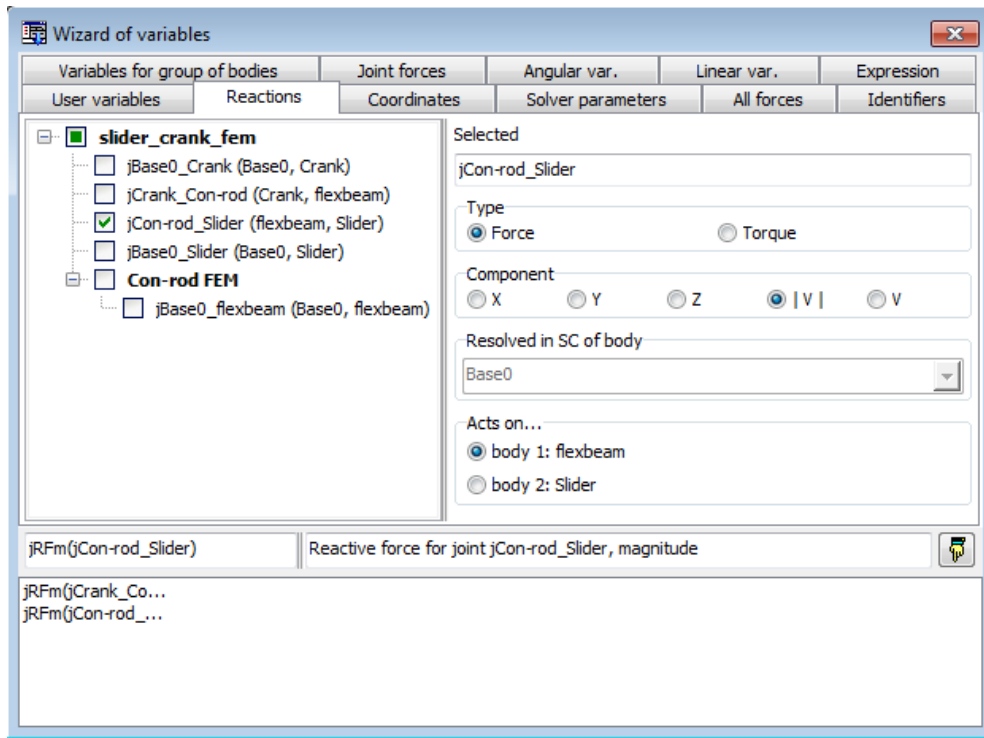

Figure 1.25.
7. Run **Wizard of variables** and create variables to determine absolute values of reaction forces in joints **jCrank\_Con-rod** **jCon-rod\_Slider** (Figure 1.25) and drag them to the graphical window.